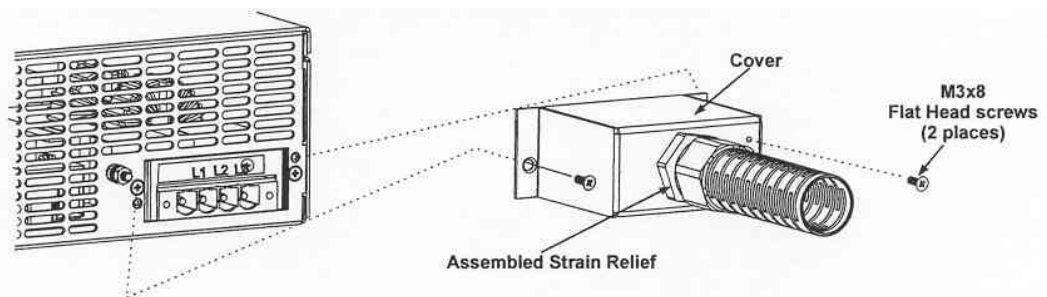

Fig.3-4: AC input cover and strain relief
- Route the wires inside the cover to prevent pinching. Fasten the cover to the unit using the M3x8 Flat Head screws are provided. Refer to Fig.3-4 for details. Tighten screws securely (4.8 - 4.9LB-inch, 0.54-0.55 Nm)